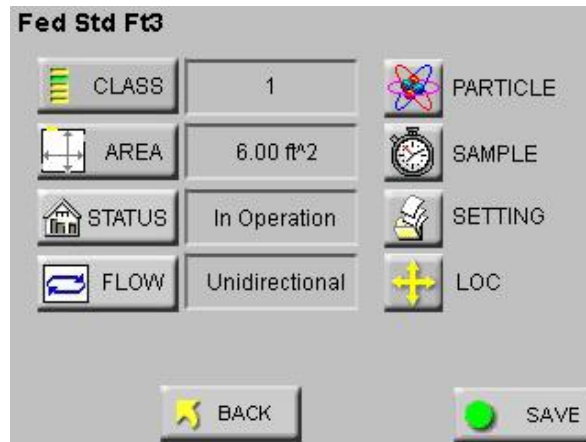

Figure 6-93 Reports Setup Screen
- Press the BACK button then select BACK to return to the main REPORTs screen or select SAVE to save the configuration in the Recipe database. See Figure 6-93.